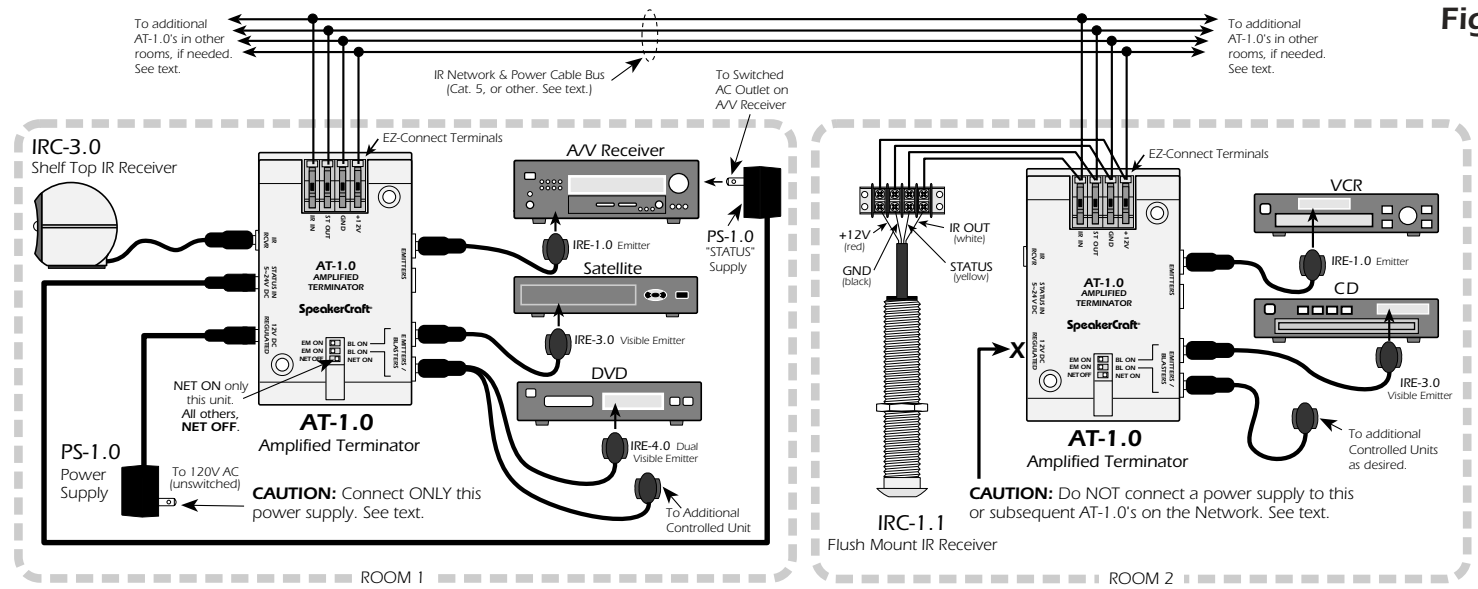

Fig. 4
**Network Terminator.** The bottom DIP position allows the IR IN and IR RCVR inputs to be terminated with a 500Ω resistor (NET ON), or un-terminated (NET OFF). The NET ON position should be chosen when using long lengths of wire (over 50', shielded in particular) between the IR receiver, keypad, etc. and the AT-1.0. This ensures best operation for high data rate IR codes. If using two or more AT-1.0s in a paralleled network system (see Fig. 4), be sure **only ONE** of the AT-1.0 Terminators is set to the NET ON position.
Fig. 4 is an example of a two-room system using two AT-1.0's for Bi-Directional control on a common IR Network. This type of connection permits IR receivers (or keypads if used), located in each room, to control the various components in both rooms, whether local or remote.